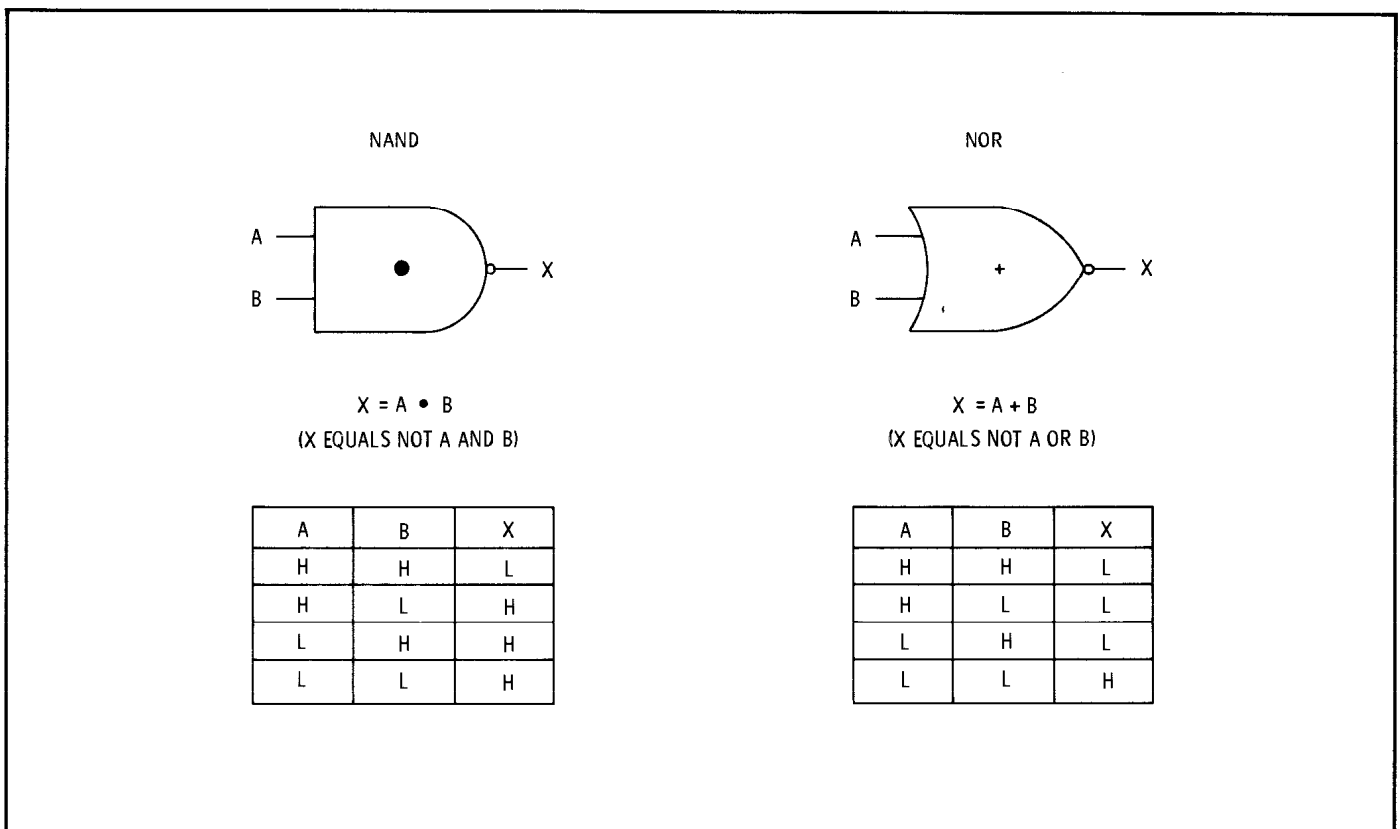
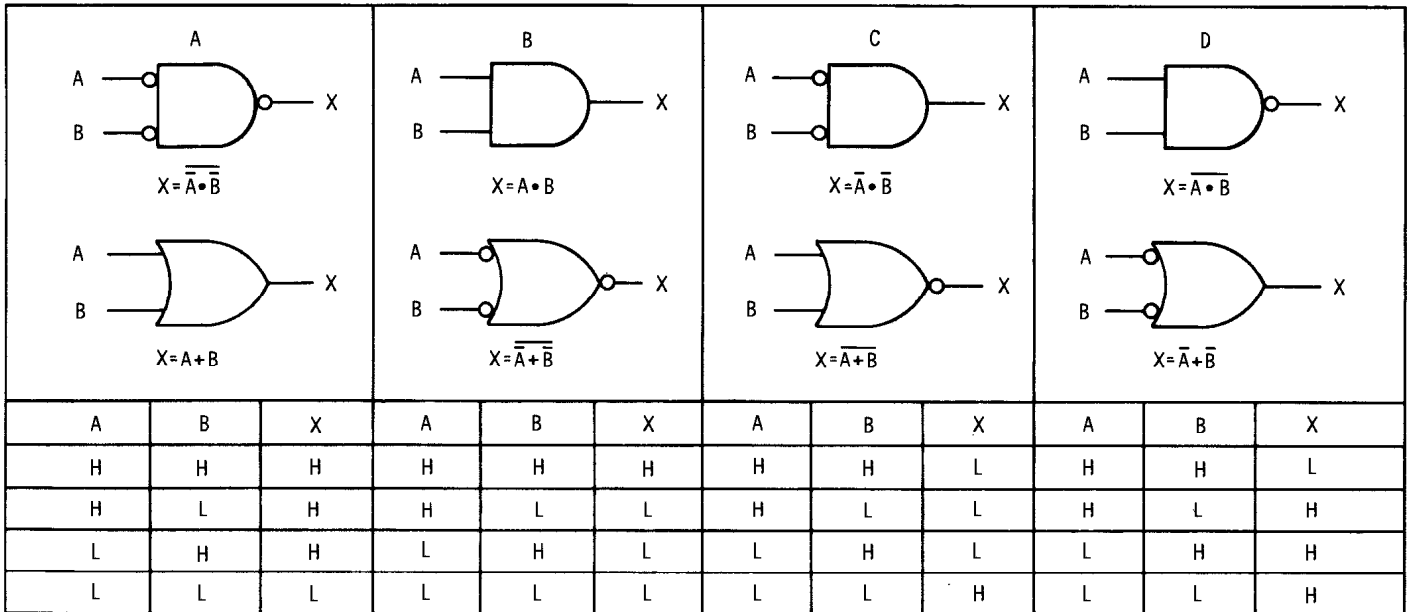

Figure 8-3. Basic NAND and NOR Gates
Figure 8-4. Logic Comparison Diagrams
**8-33. LOGIC INVERSION.** Adding inversion to AND and OR gates changes their characteristics. Inversion is usually accomplished by adding an inverter stage (common emitter) in front of an input or after an output. A circle added to the input or output leads indicates the portion of the circuit in which the inversion takes place. The simplest of these devices are AND and OR gates in which the output is inverted. These gates are called NAND (for Not AND) and NOR (for Not OR). Basic NAND and NOR gates are shown in Figure 8-3. When all inputs and outputs of an AND gate are inverted, it functions as an OR gate. When all inputs and outputs of an OR gate are inverted, it functions as an AND gate. Figure 8-4 provides information relative to various gate inversion functions.